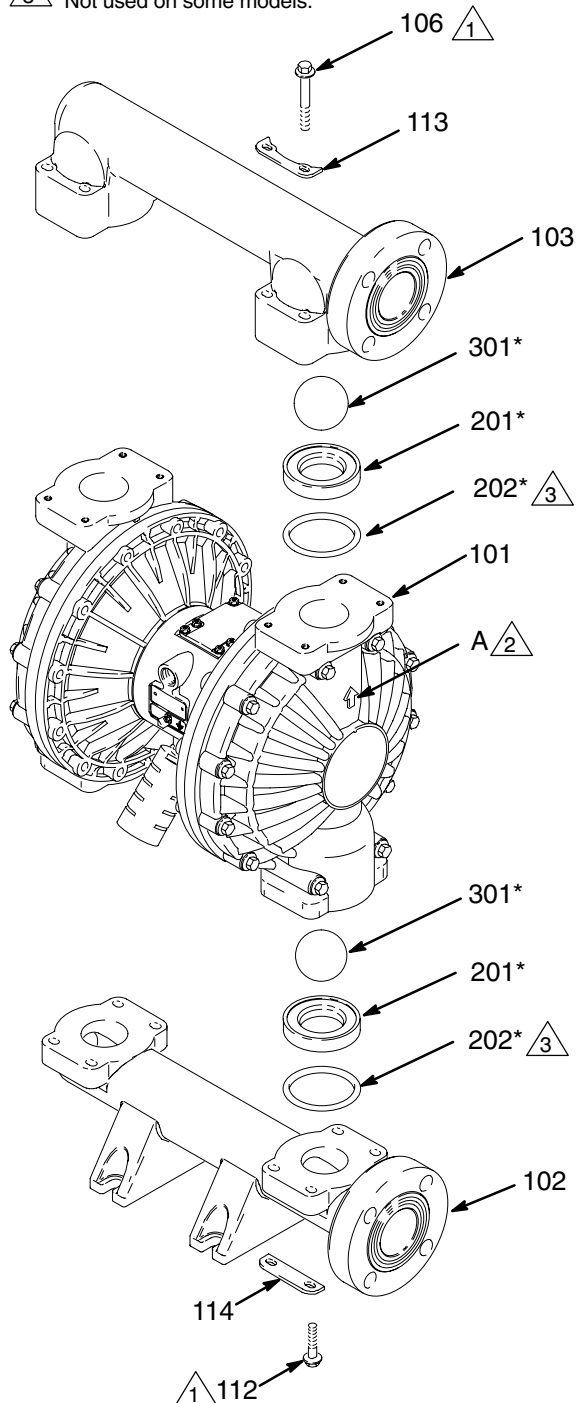

Fig. 11
3. Using a 10 mm socket wrench, remove the eight bolts (106), and four washers (113), holding the outlet manifold (103) to the fluid covers (101). See Fig. 11.
4. Remove the seats (201), balls (301), and o-rings (202) from the manifold.
2. Reassemble in the reverse order, following all notes in Fig. 11. Be sure the ball checks are assembled **exactly** as shown. The arrows (A) on the fluid covers (101) **must** point toward the outlet manifold (103).